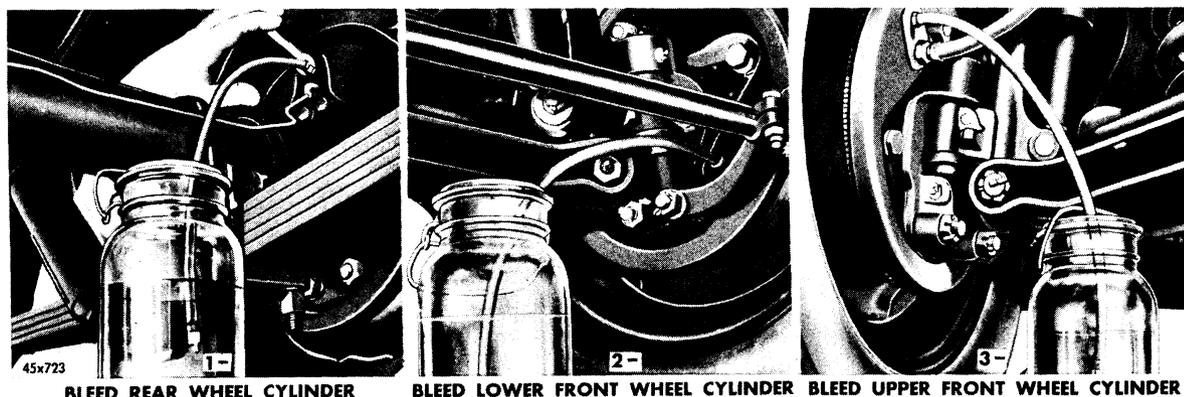

Fig. 9—Procedure for Bleeding Wheel Cylinders (Typical View)
- (1) Back the brake adjusting cams all the way off. This allows the pistons in the wheel cylinders to move back and permits greater movement of the piston to expel the air faster.
- (2) Starting with the right rear wheel cylinder, wipe the dirt off bleeder valve and attach bleeder hose, Tool C-650 to valve. Place other end of hose in a jar half full of brake fluid. This is to prevent air from being drawn in the system when the brake pedal is released.
- (3) Pump fluid by pushing brake pedal down and let it return **SLOWLY** to avoid air being drawn into the system. Bleed intermittently, opening and closing valve about every four seconds. This causes a whirling action in the cylinder which helps expel the air. Continue this process until fluid runs out of bleeder hose in a solid stream without air bubbles.
- (4) Continue bleeding by repeating this operation on the left rear wheel, the right front wheel and the left front wheel.
- (5) At the front wheels, bleed the lower cylinder first so as to force all the air out of the connecting line. (Refer to Fig. 9.)